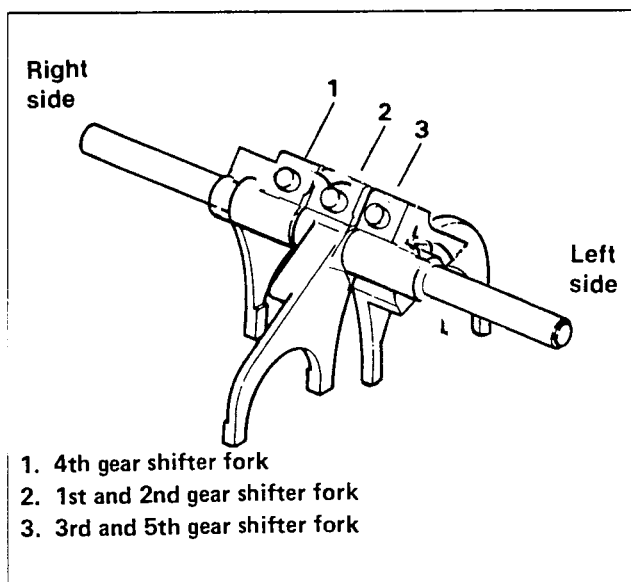

Figure 2. Shifter Fork Identification
1. See Figure 2. The forks differ from each other and are shown here.